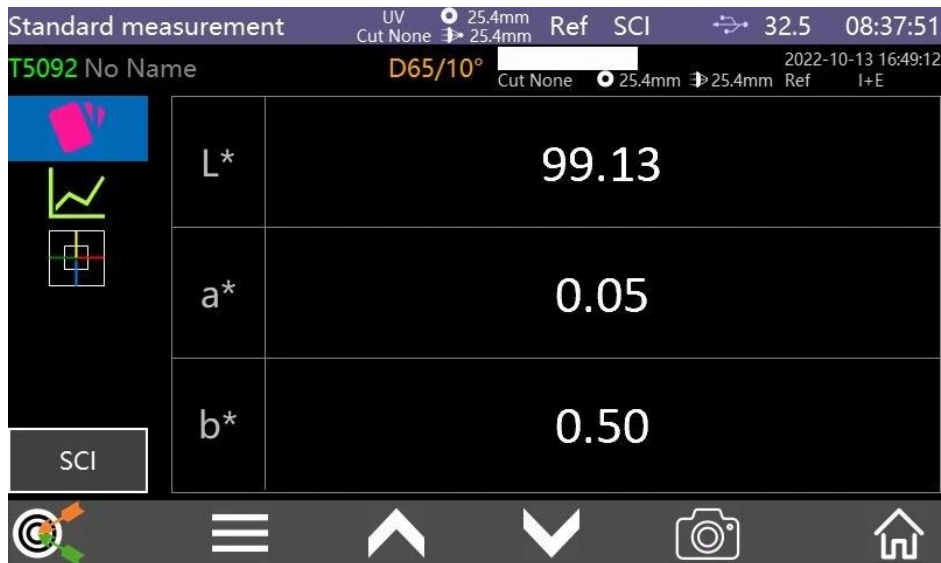

Figure 2
1. Standard measurement interface in Figure 2, click  , or in other interfaces click  to enter the main menu, as shown in the following figure.